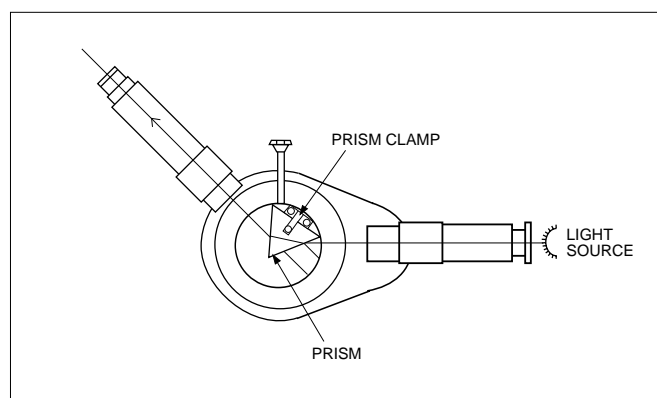

Figure 10 Mounting the Prism
- ① Align and focus the spectrometer as described earlier.
- ② Use the two thumbscrews to attach the prism clamp to the spectrometer table and clamp the prism in place as shown in Figure 10.
- ③ Place the light source a few centimeters behind the slit of the collimator. (It may be helpful to partially darken the room, but when using the prism this is often not necessary.)